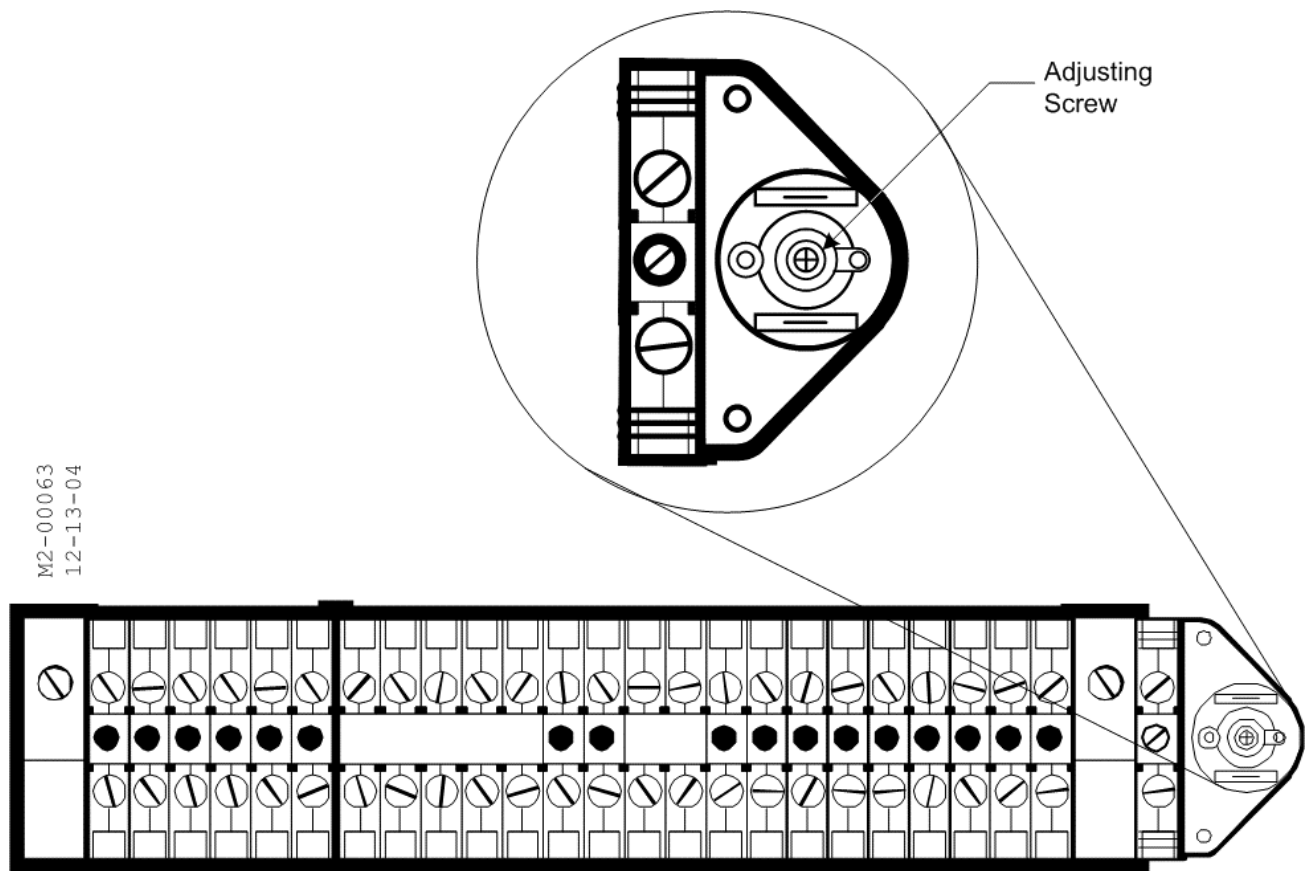

Figure 3-16: Pneumatic Sensor with Adjustment Screw
3. Slowly turn the adjustment screw on the pneumatic sensor clockwise until the red light on the DYNALOGIX comes on. See Figure 3-16.